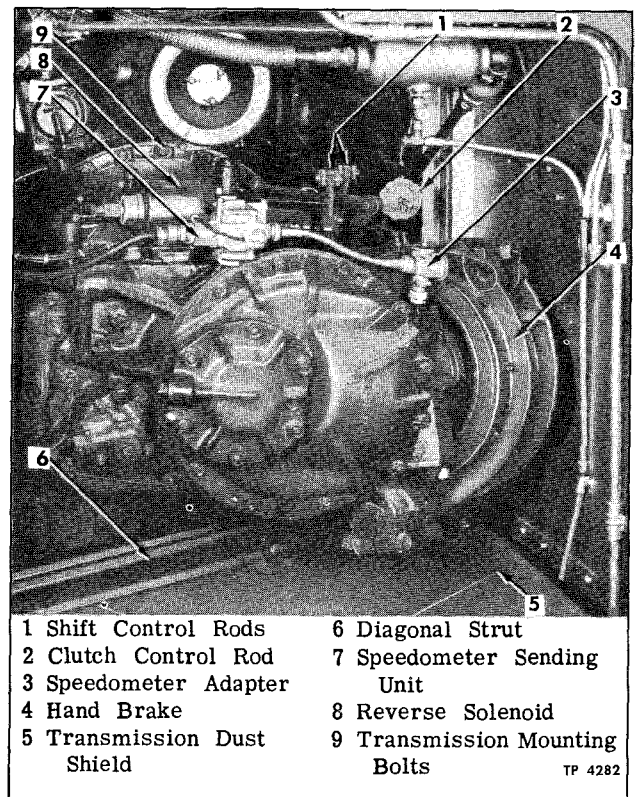

Figure 6—Transmission Installed in Coach
(Key numbers refer to Fig. 6)
Refer to figure 6 for transmission installation view. Transmission may be removed from vehicle as a unit without removing complete power plant, in following manner:
(Key numbers refer to Fig. 6).
1. Refer to figure 6 for transmission installation view. Coat clutch shaft splines sparingly with lubricant as directed in LUBRICATION (SEC. 13 of the manual). Install clutch release parts in clutch housing if they have been removed. Check the finger adjustment and also clean clutch bell housing and transmission bell housing. Refer to CLUTCH (SEC. 5) for clutch release mechanism information.
4. Connect wiring to speedometer sending unit (7) and reverse solenoid (8).
5. Connect clutch control rod (2) to clutch lever then connect clutch return spring.
6. Connect shift rods (1) to shift levers then connect hand brake pull rod.
7. Install diagonal strut (6).
8. Install transmission dust shield (5).